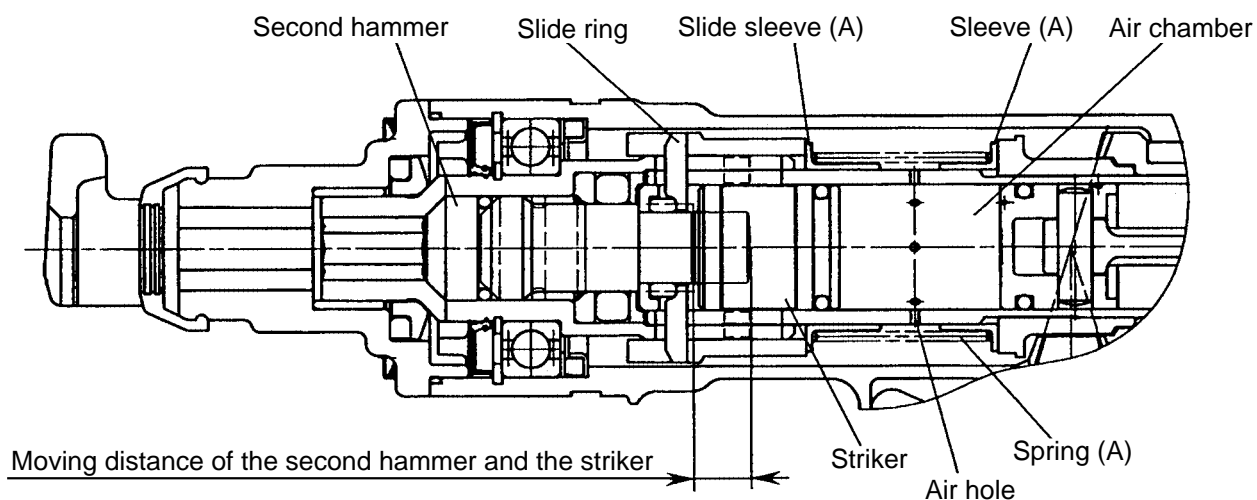

Fig. 4
When the working tool is released from the workpiece, slide sleeve (A) and the second hammer are forcibly moved to the position illustrated in Fig. 4 by spring (A), and the striker moves out of striking position. When this occurs, the air holes located at the position unaffected by the rebound of the striker at no load are opened and the pressure within the air chamber remains unchanged even though the piston continues to reciprocate, thereby preventing striking operation.